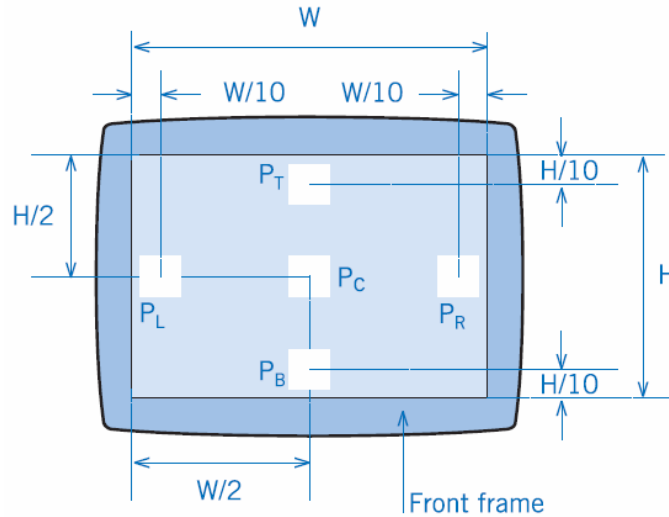

Figure1: Measurement positions for angular dependence luminance uniformity.
1. Refer to Fig.1&2, for FPDs in the horizontal direction, the mean value of the Lmax. to Lmin. ratios at ± 30 degrees shall be $\square 1.7$.
2. Refer to Fig.1&3, for FPDs in the vertical direction, the value of Lmax. to Lmin. ratio at +15 degree shall be $\square 1.7$ and the largest value of Lmax. to Lmin. ratio at ± 15 degree shall be
Refer to Fig.1&2, center point(Pc) Luminance of White(Lw) and Black(LB) is measured at ±30 degrees.